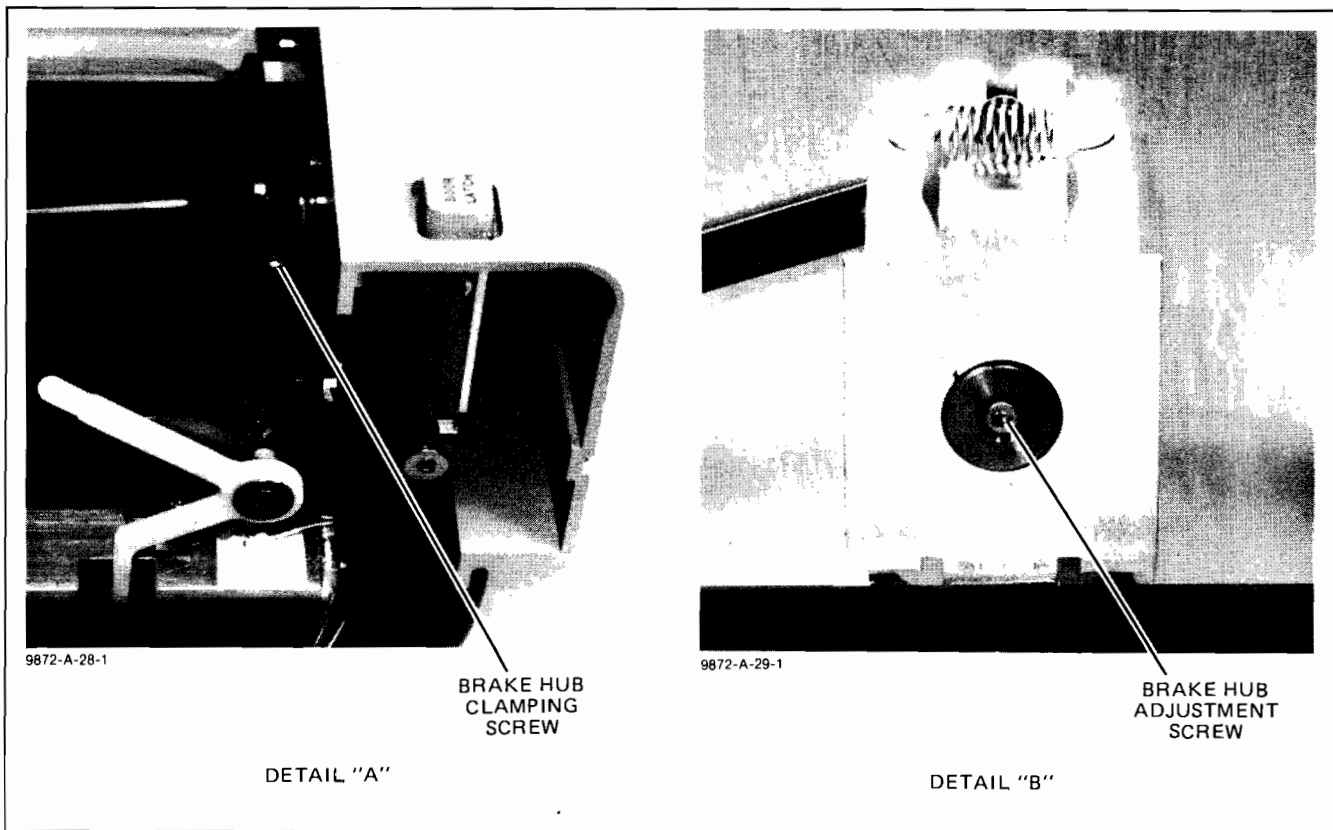

Figure A3-6. Brake Hub Adjustment
- a. Set the plotter LINE switch to the OFF (O) position.
- f. Loosen the brake hub clamp screw. See Figure A3-6.
push the brake hub forward until it contacts the end of the adjustment screw. See Figure A3-6.